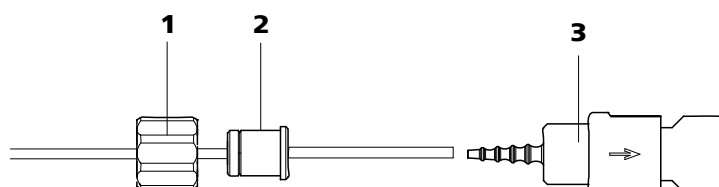

Figure 32 Install pump tubing connection with filter
- **Case A:** a 6.2744.180 pump tubing connection **with filter** (see Figure 32, page 61) or